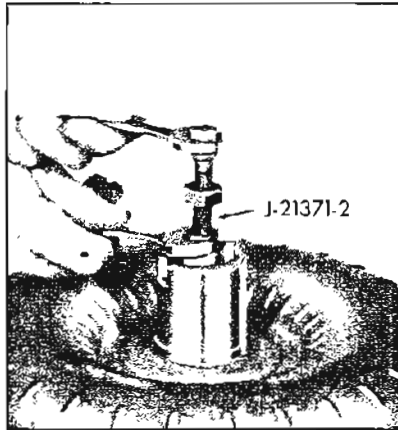

Figure 5-366
- a. Install tool J-21371-2 and tighten brass nut. See Figure 5-366.